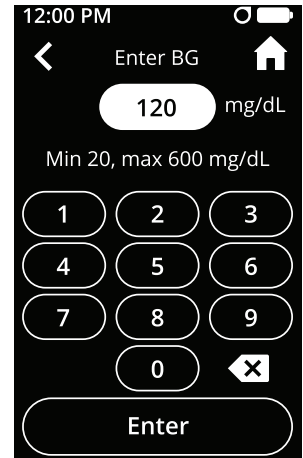

Figure 92
- Type in a BG value. Tap **Next** to continue (see Figure 92).